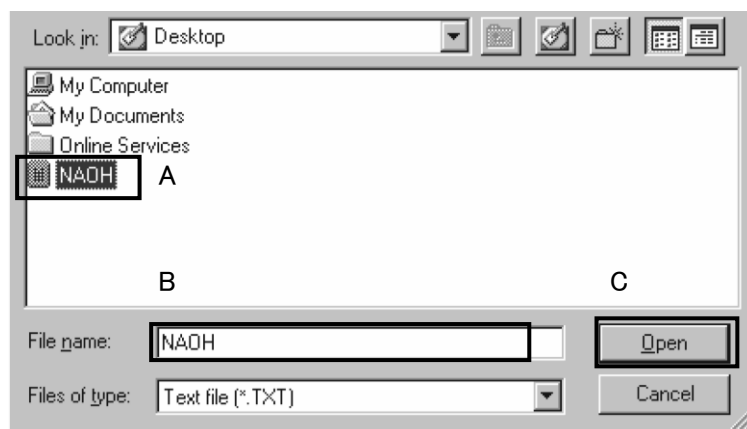

Fig. 11-25
- Repeat the operation 3) until the file storing a created user scale is updated like Fig. 11-25.
- ⑤Click Open in Fig. 11-25 to start the data transfer.